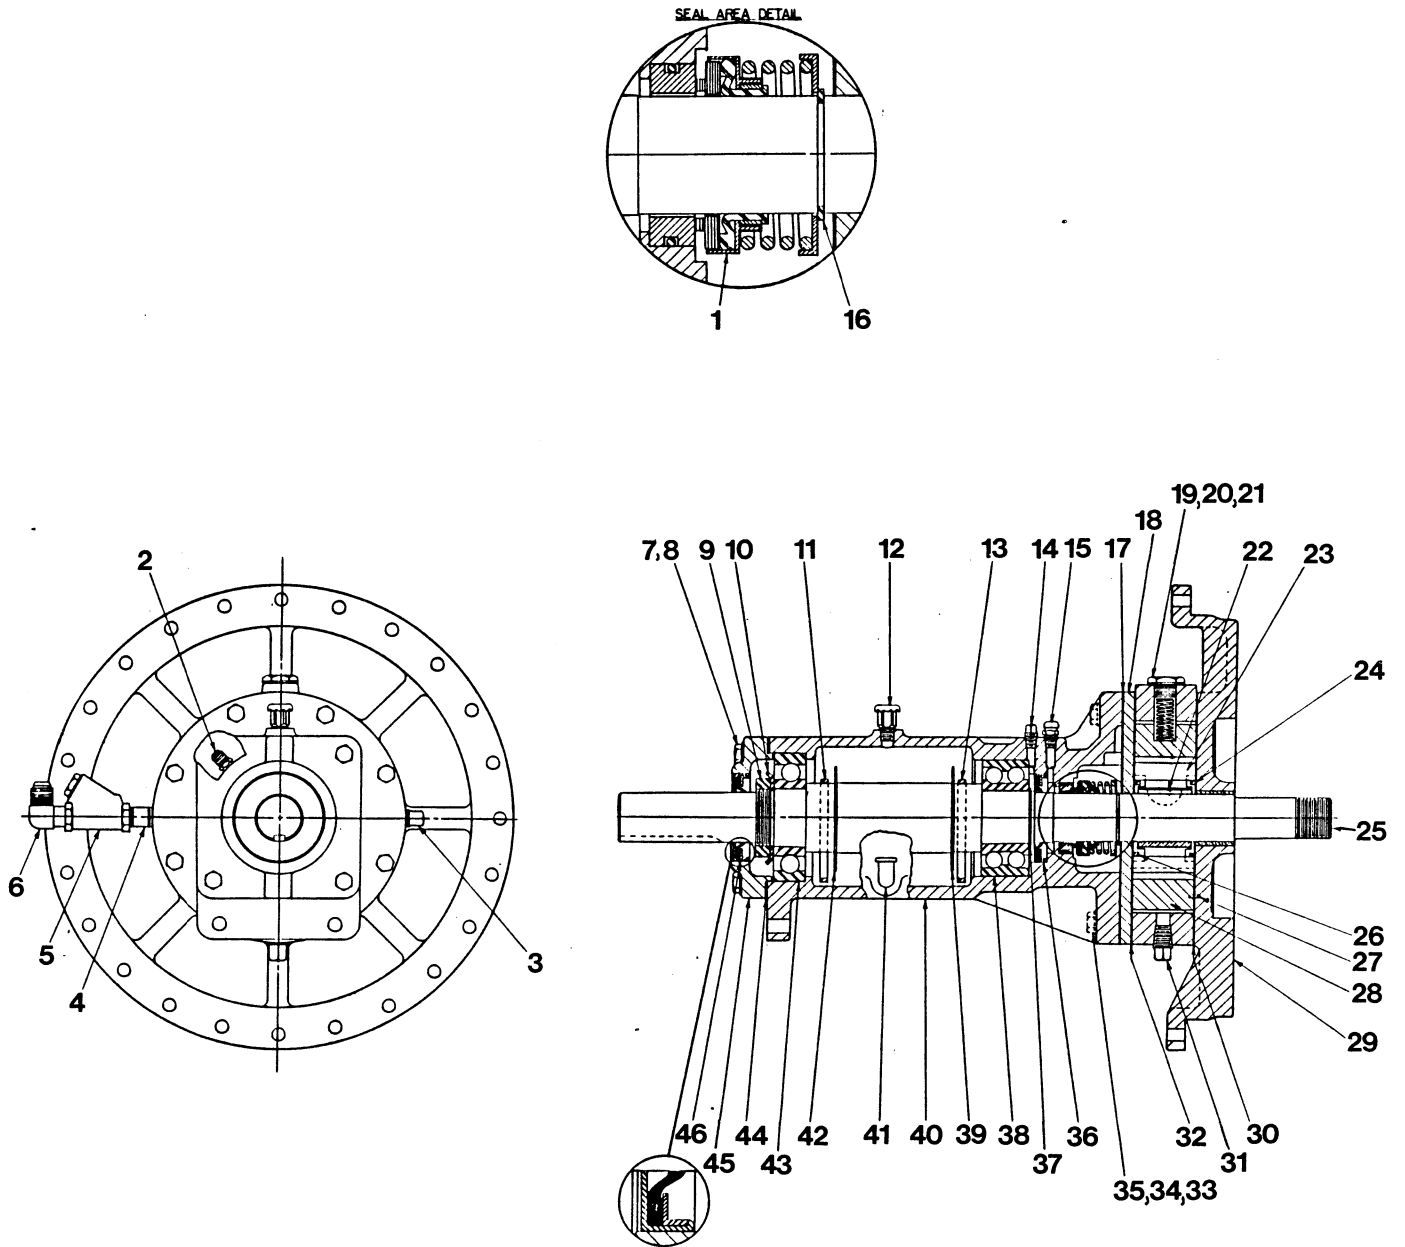

Figure 2. Bearing Housing Assembly 44143-091
Before attempting to service the pump, disconnect or lock out the power supply to prevent accidental start up. Close all valves in the suction and discharge piping and drain the pump casing and group grind by removing the drain plugs (13, Figure 1, and 31, Figure 2). Clean and reinstall the drain plugs.
Disconnect the suction and discharge piping from the pump casing. Disconnect the priming tube assembly (11) from the system check valve (not shown) and the priming tube check valve (5, Figure 2). Remove the male elbow, check valve, and
pipe nipple (4, 5 and 6, Figure 2) from the bearing housing (40, Figure 2). Disconnect the seal tube assembly (5) from the bearing housing and pump casing (1).
(Figure 2)
(Figure 2 and 4)